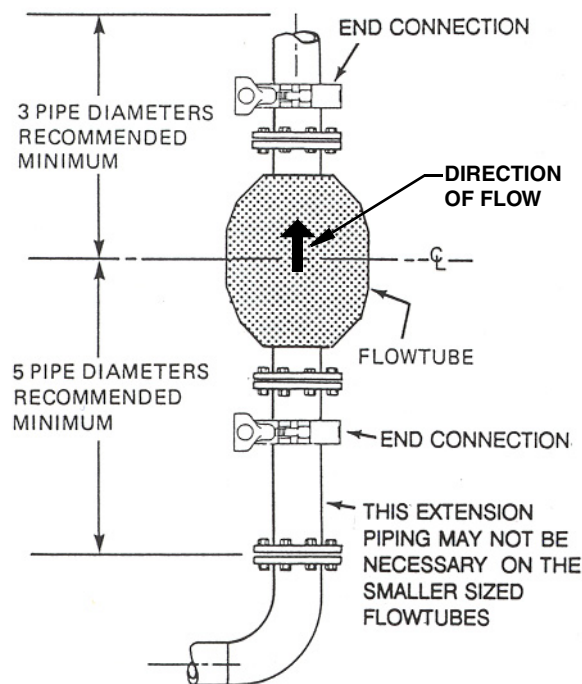

Figure 7. Sanitary Flowmeter Mounted Vertically
- ◆ The magnetic flowtube must be installed so that it remains full of liquid during operation. An example of good orientation of the flowtube is in a vertical pipeline with flow in an upward direction, as shown in Figure 7.
- ◆ The flowtube should have straight, unobstructed piping for a distance of five pipe diameters (5 PDs) upstream and 3 PDs downstream (measured from the center of the flowtube) to ensure optimum performance (see Figure 7). Adjacent process piping should have the same diameter or be slightly larger than the flowtube.
- ◆ Figure 7 also shows a flow direction arrow. However, the tube can be installed in the reverse direction if this orientation provides better wiring access to the connection box (tube performance is the same in both directions). If you do install the tube in the reverse direction, then configure the transmitter flow direction parameter for reverse flow, or reverse the polarity of the electrode wires.